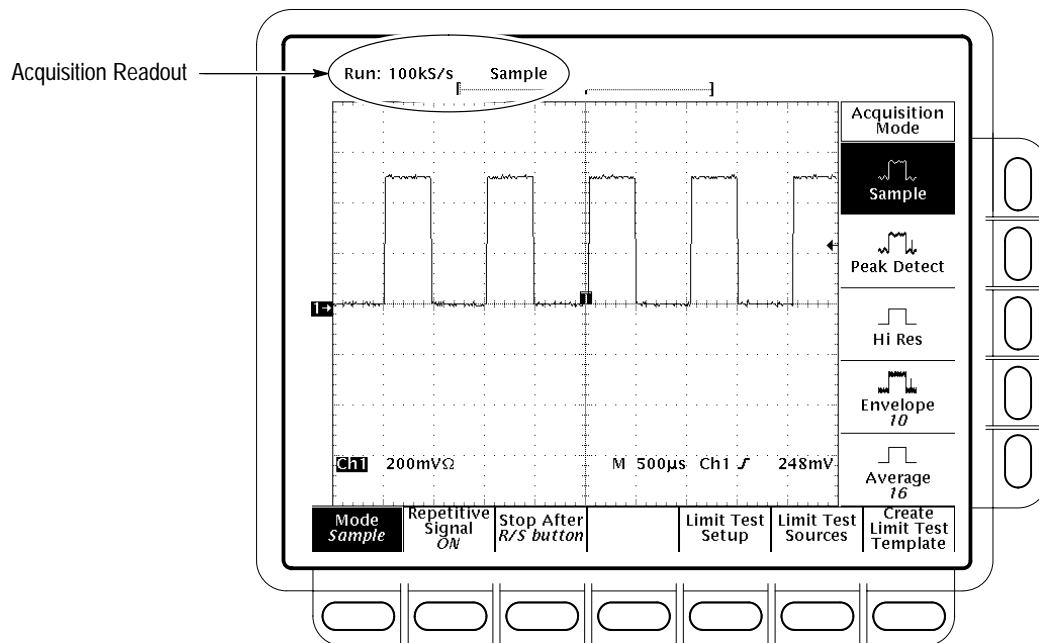

Figure 3–16: Acquisition Menu and Readout
To determine the acquisition sampling rate, the acquisition state (running or stopped), and the acquisition mode, check the Acquisition readout at the top of the display. (See Figure 3–16.) The state “Run:” shows the sample rate and acquisition mode. The state “Stop:” shows the number of acquisitions acquired since the last stop or major change.
1. Press **SHIFT ACQUIRE MENU** → **Mode** (main). (See Figure 3–16.)